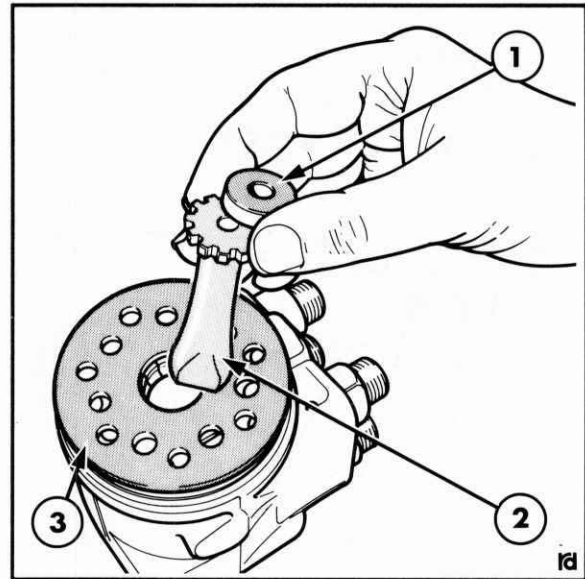
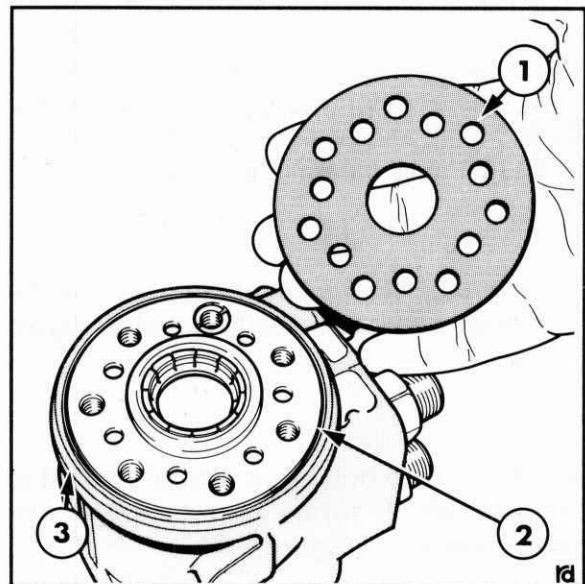

Figure 7-26
Figure 7-26A
5. Lift out the rotor drive shaft, Figure 7-26 and valve plate, Figure 7-26A.